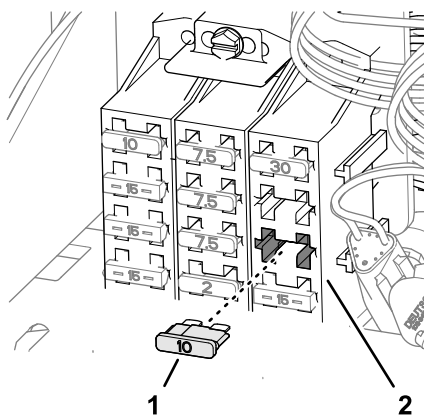

Figure 145
8. Insert the fuse (10 A) into the fuse-block socket (Figure 145) for the options power circuit that you used in step 5.